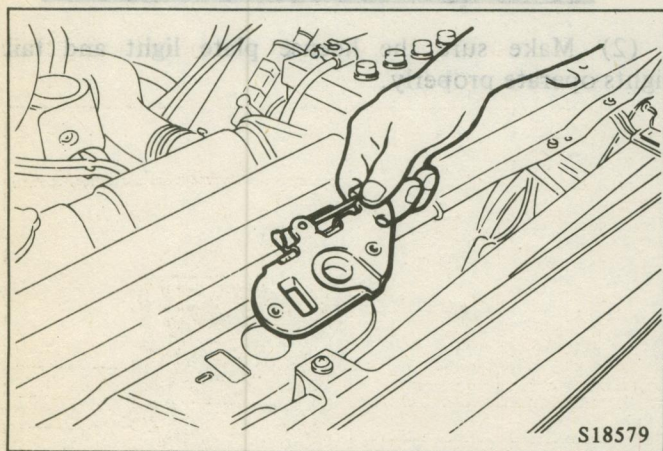

Fig. 12 Removing the Hood Lock
- (1) Remove the hood hook and moulding.
- (2) Remove hinge attaching bolts, and remove the hood from the body.
- (3) Remove the hood lock and disconnect the unlock cable. (Figs. 12 and 13)
- (4) Remove the fixed clip from unlock cable, loosen lock nut and pull out the cable.